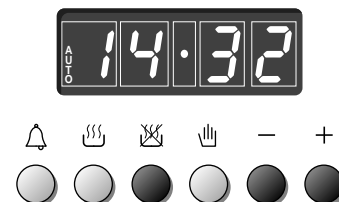

Fig. 4.8
2. Set the end of the cooking time by pushing the button and the button to advance, or to go backwards if you have passed the desired time (Fig. 4.8).